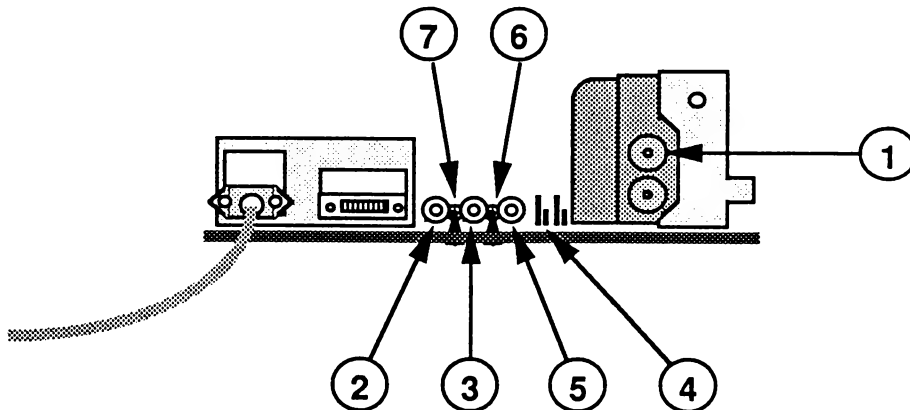

FIGURE 3
3. Vertical Hold: If the image is rolling, adjust the vertical hold control VR401 (Figure 3, #2) until the picture is locked.
4. Vertical Height: If the vertical height of the image is incorrect, adjust V-HEIGHT VR403 (Figure 3, #3) until the height of the active portion of the display is 5 9/10 inches.
5. Vertical Center: If the vertical position of the entire image is off, adjust VPOS1 and VPOS2 (Figure 3, #4) until the image is centered.
3. Horizontal Hold: If the picture is tearing (not locked), adjust H-HOLD VR502 (Figure 3, #5). **Keep in mind that VR502 is a fine adjustment control and adjusting this variable resistor too high or too low may cause the monitor to shut down.** If this happens, switch off the monitor and turn the H-HOLD control to the center of its limits. Wait 30 seconds, and then switch on the monitor and resume the adjustment.
5. Horizontal Center: If the image is too far to one side of the screen, adjust H-CENTER VR501 (Figure 3, #6) until the image is centered.
3. VERTICAL HEIGHT: Measure the height of the active portion of the display. Adjust V-HEIGHT VR 403 (Figure 3, #3) for about 5 9/10 inches.
4. Adjust V-LIN VR 402 (Figure 3, #7) so that all the boxes in the display are close to the same size.
3. Locate the focus adjustment on the flyback transformer on the main logic board (Figure 3, #1).